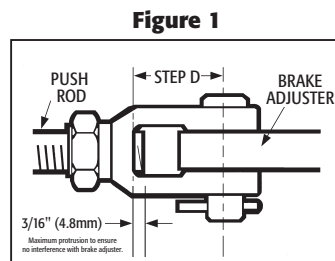

Figure 2
C. Measure the distance from the centerline of the S-Cam to the centerline of the push-rod (See Figure 2 - Dimension A). This measurement should be equal to the length of the brake adjuster being used. (See Figure 3 - Dimension A).
NOTE: If Dimension A - Figure 2 and Dimension A - Figure 3 are not identical, the chamber mounting bracket is either bent and must be straightened or replaced, the chamber has been mounted improperly in the bracket or the length of the adjuster installed is incorrect. Make any necessary corrections before going to Step D.
E. Using a square, mark the push-rod at the 90° setting (See Figure 2 - Mark #1). From this mark, subtract the measurement recorded in Step D and make a second mark on the push-rod (moving toward the brake chamber mounting surface). (See Figure 2 - Mark #2).